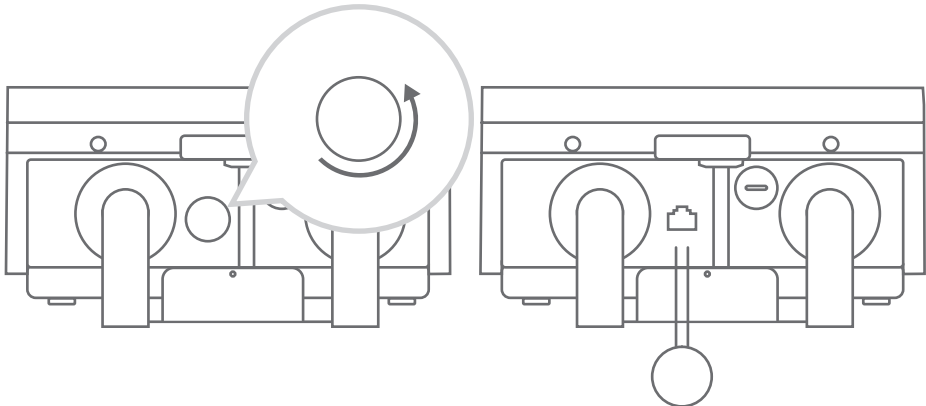

Fig. 4-17
1. Remove the protective cap of the network port on the bottom center of the charger. (See Fig. 4-17)